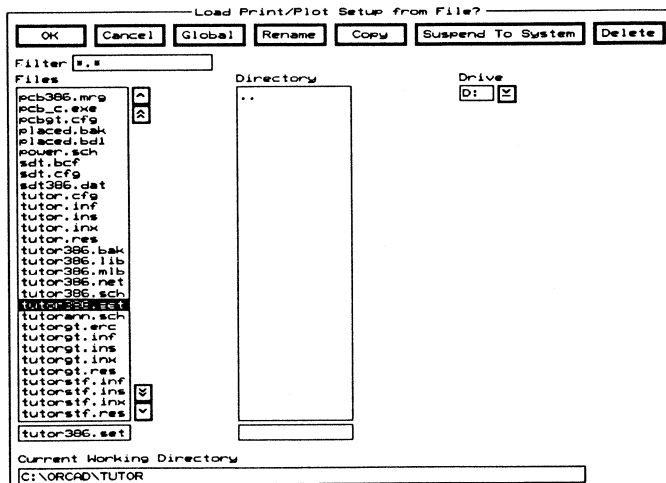

Figure 9-9. The Load Print/Plot Setup from File dialog box.
4. Select **Load**. The Load Print/Plot Setup from File dialog box displays, and TUTOR386.SET is selected (figure 9-9).